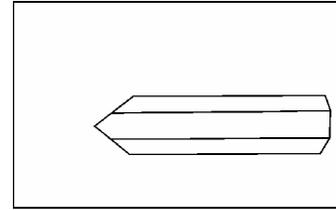

Figure 4.2
- Use an anvil and a hammer to taper the heated end of the rod. The taper should begin on the chipping tip and end about 2" up the rod, as illustrated in Figure 4.2. The end of the tip should be 3/16" thick.